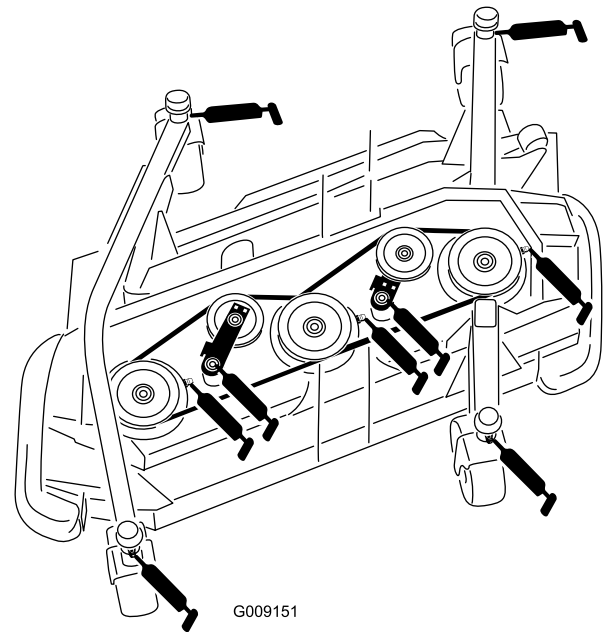

Figure 56
- Castor fork shaft bushing (4) (Figure 56)
- Spindle shaft bearings (3 each) (located on spindle housing) (Figure 56)
- Idler arm pivot bushings (2) (located on the idler pivot shaft) (Figure 56)